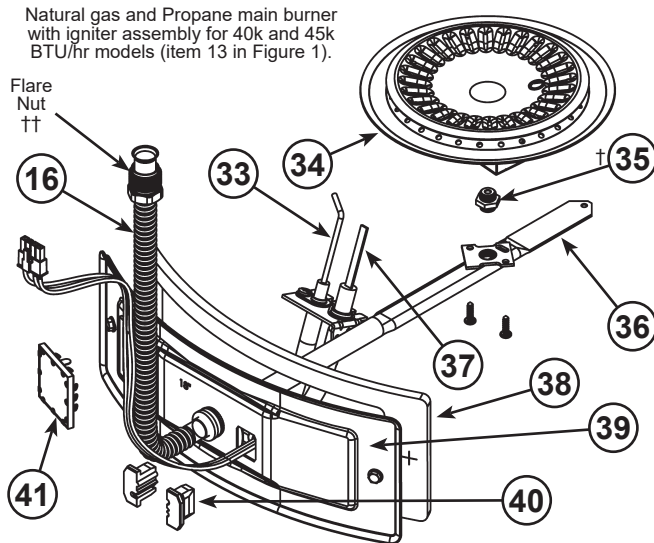
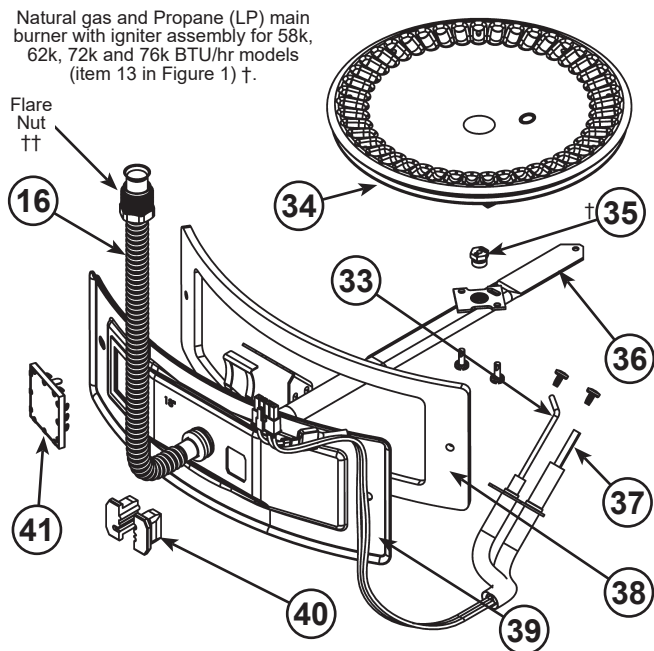
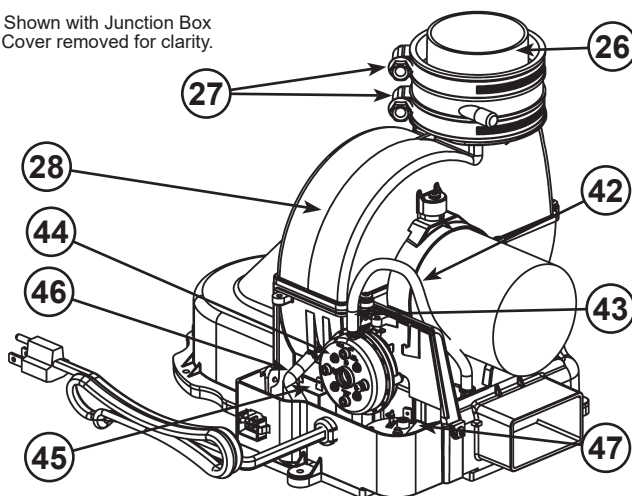

Figure 3.
Figure 4.
Figure 5.
| 1 Termination Elbow with Vent Screen | 16 Flexible Manifold Tube (see Figure 3 & Figure 4) | 35 Gas Orifice (see Figure 3 & Figure 4) |
| 2 *Vent Pipe | 17 ***Control Harness | 36 Gas Manifold (see Figure 3 & Figure 4) |
| 3 *Vent Pipe Elbow (long radius) | 18 *Sediment Trap | 37 Hot-Surface Igniter (see Figure 3 & Figure 4) |
| 4 *Union (Di-electric water connection) | 19 *Ground Joint Union (gas connection) | 38 Manifold Door Gasket (see Figure 3 & Figure 4) |
| 5 Cold-Water Inlet Nipple/Diptube | 20 *Main Manual Gas Shut-off Valve | 39 Manifold Door (see Figure 3 & Figure 4) |
| 6 **Combo Heating System Supply Outlet (Optional) | 21 *Gas Supply* | 40 Two Piece Grommet With Clip (see Figure 3 & Figure 4) |
| 7 T&P Valve | 22 Anode (under cap) | 41 Viewport (see Figure 3 & Figure 4) |
| 8 *Discharge Pipe | 23 Baffle Assembly | 42 Air Tubing (Intake) (see Figure 5) |
| 9 **Combo Heating System Return Inlet (Optional) | 24 Hot-Water Outlet Nipple/Anode | 43 Blower High Limit Switch (see Figure 5) |
| 10 Gas Control Valve/Thermostat (Honeywell/Resideo) | 25 *Inlet Water Shut-off Valve | 44 Intake Air Pressure Switch (NC) (inside box) (see Figure 5) |
| 11 Drain Valve | 26 ****Rubber Coupling (see Figure 5) | 45 Capacitor (see Figure 5) |
| 12 Outer Gas Door | 27 Gear Clamp (see Figure 5) | 46 Air Tubing (Exhaust) (see Figure 5) |
| 13 Manifold Door Assembly (behind outer door) (see Figure 3 & Figure 4) | 28 ***Blower with Power Cord (see Figure 5) | 47 Exhaust Air Pressure Switch (NO) (inside box) (see Figure 5) |
| | 33 Flame Sensor Rod (see Figure 3 & Figure 4) | |
| | 34 Sheet Metal Burner (see Figure 3 & Figure 4) | |
This device is located on the blower (see Figure 5, item 43) and limits the maximum temperature of the blower. If the blower temperature rises above the temperature setting, the switch opens causing the heater to shut down.
The blower/heater is equipped with two air pressure switches located in the junction box (see Figure 5, item 44 and item 47). These devices are connected in series and monitor the air pressure produced by the blower. In the event that the exhaust venting becomes blocked or sufficiently restricted, the normally open (NO) air pressure switch will shut down the heater. In the event that the intake pipe becomes sufficiently blocked or restricted, the normally closed (NC) air pressure switch will shut down the heater.